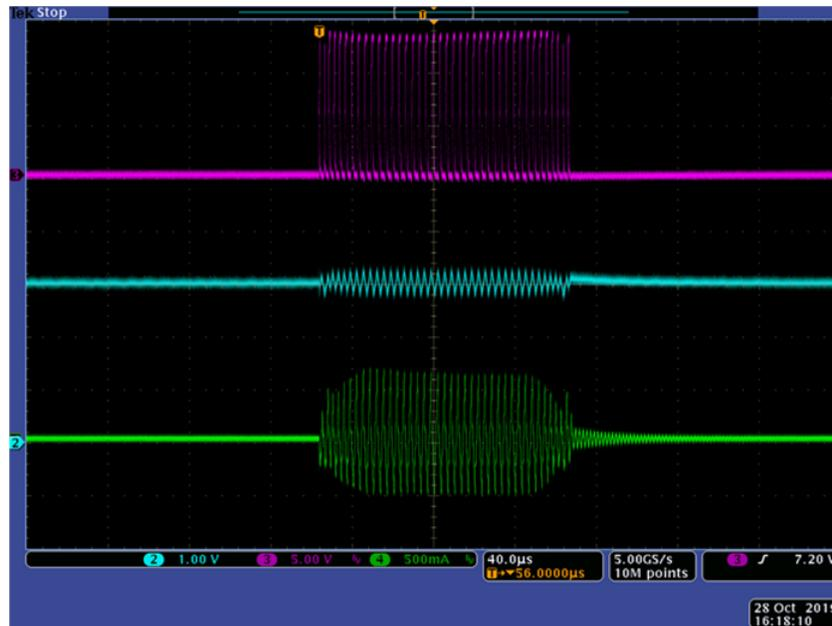

Figure 22. Steady State Waveforms at No Load (Ch2 = VCR; Ch3 = LO; Ch4 = IResonant)
The following waveforms show the sampled resonant capacitor voltage (VCR), resonant current, and low side gate voltage (LO) with 115 VAC, 60 Hz applied to the AC input and 390 VDC applied to the DC input. Figure 22 and Table 7 show the waveforms during burst mode.